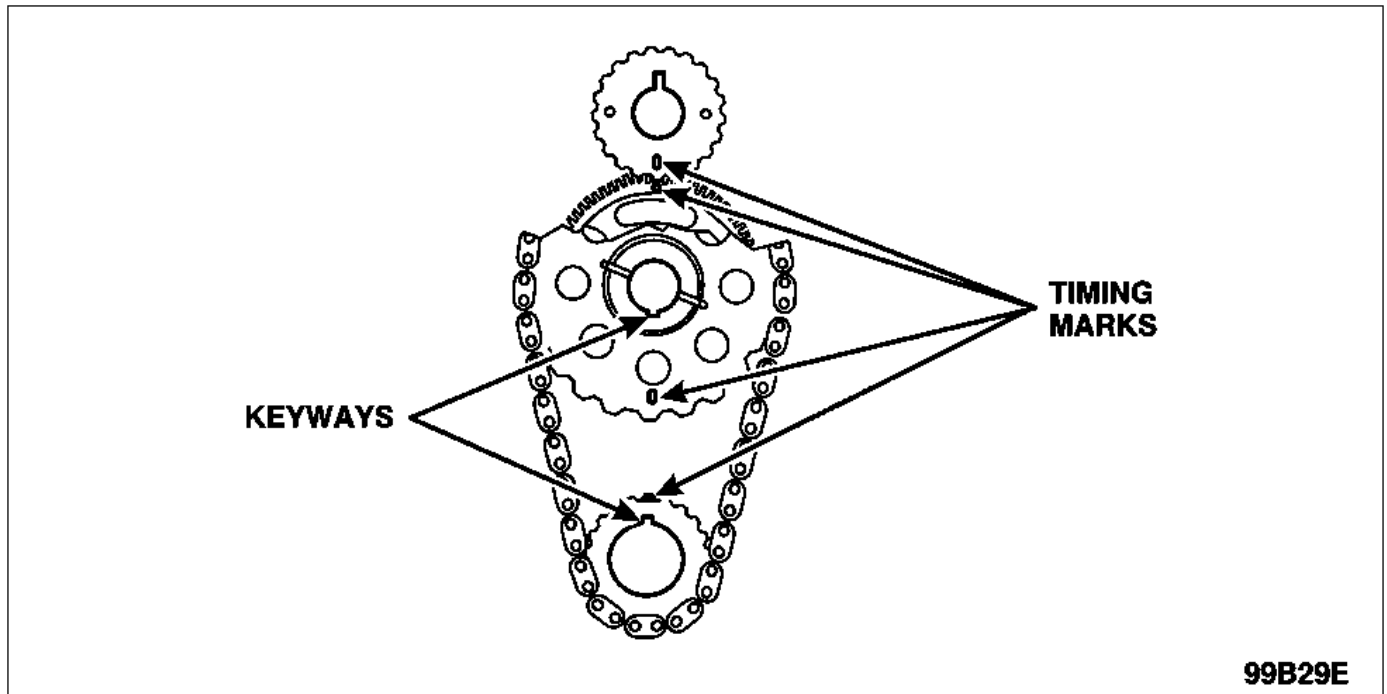

FIGURE 5
41. Rotate the crankshaft until the timing marks and the keyways are aligned. See Figure 5. This will position cylinder number 1 at TDC of the compression stroke, which is also required for camshaft synchronizer assembly installation.